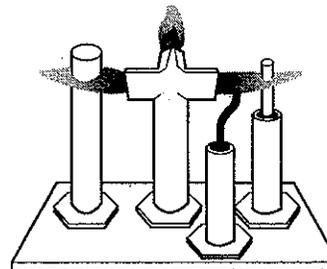

FIGURE 39. Pilot assembly with correct pilot flames
4. Locate the pilot in the lower left front of the fireplace, behind the ember strip. Fig. 39.
6. Light the pilot by pushing the control knob all the way in and holding it there. Immediately push the red ignitor button; push it more than once, if required, to light the pilot. Continue to hold the control knob in for about one (1) minute after the pilot ignites. Release the knob and it will pop back out. Once the pilot has ignited, it should remain lit. It will produce a small but steady flame. If the pilot flame does not appear as in Fig. 39, turn the appliance off.